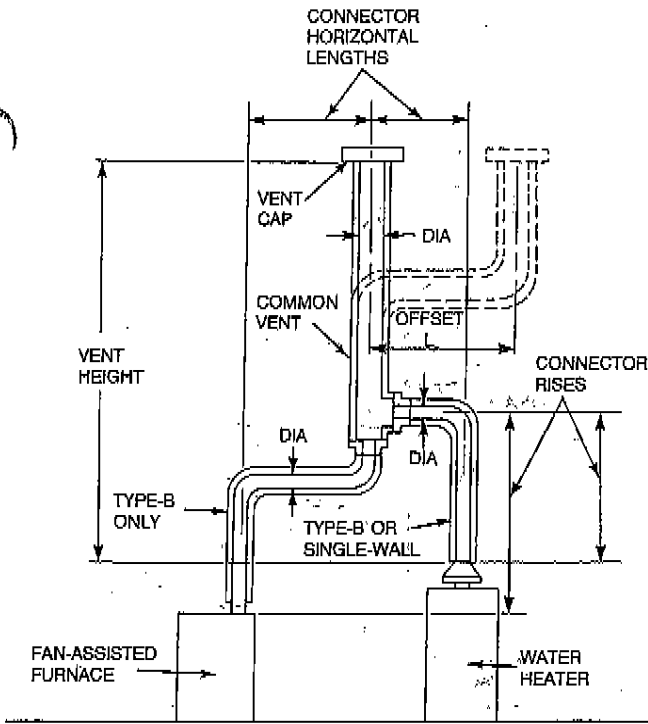

Fig. 1—Use With Tables 1 and 2
4. A vent or chimney may be offset as noted in the table below and as shown in Fig. 1, 2, 6, 7, or 8.
NOTE: Use as shown in Fig. 1, 2, 5, 6, 7, and 8.